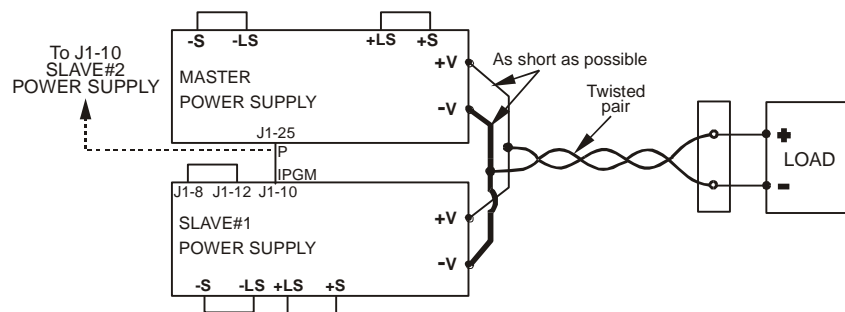
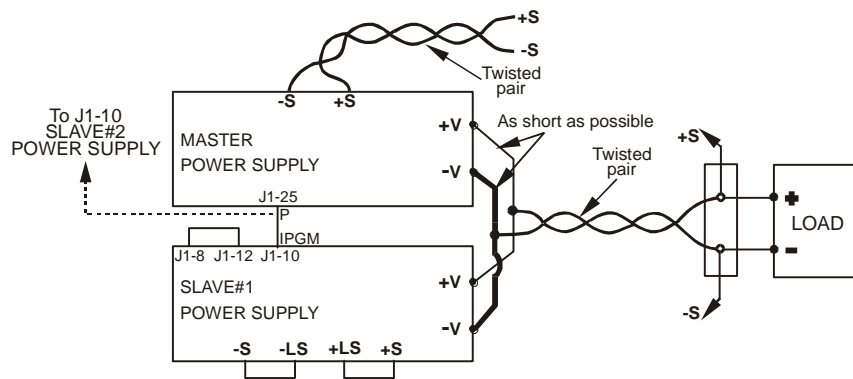

Fig.5-4: Parallel connection with local sensing
Fig.5-5: Parallel operation with Remote sensing
Set the Master unit Output Voltage to the desired voltage. Program the Output Current to the desired load current divided by the number of parallel units. During operation, the Master unit operates in CV mode, regulating the load voltage at the programmed Output Voltage. Connect the sensing circuit to local or remote sensing as shown in Fig.5-4 or Fig.5-5.
In parallel operation, power supplies can be connected in local or remote sensing. Refer to Fig. 5-4 and 5-5 for typical connections of parallel power supplies. The figures show the connection of two units, however, the same connection method applies for up to 4 units.
7. Select Local or Remote sense - Ref. Figures 5-4 and 5-5.